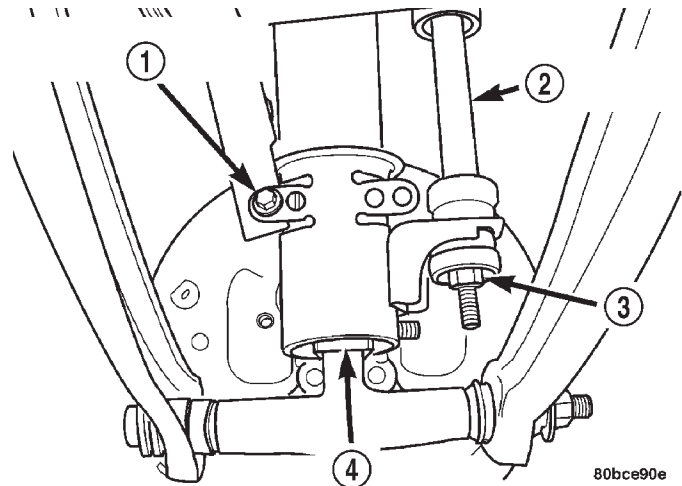

Fig. 5 Rear of Strut Assembly
(1) Raise the vehicle. Refer to **HOISTING** in the **LUBRICATION AND MAINTENANCE** group for the proper lifting procedure.
(2) Remove the rear wheel and tire assembly from the vehicle.
(3) If the vehicle is equipped with rear drum brakes, remove the screw securing the brake hose bracket to the rear of the strut assembly (Fig. 5).
(5) Remove the nut from the end of the rear stabilizer bar link bolt (Fig. 5). Pull the bolt out through the top of the link and remove the link.
(9) If the vehicle is equipped with rear drum brakes, install the screw securing the brake hose bracket to the rear of the strut assembly (Fig. 5). Tighten the screw to a torque of 31 N·m (275 in. lbs.).
(10) Install the tire and wheel assembly on vehicle. Tighten the wheel mounting stud nuts in proper sequence until all nuts are torqued to half specification. Repeat the tightening sequence, this time, to full specified torque of 135 N·m (100 ft. lbs.).
(11) Lower the vehicle to ground level.
(12) Tighten the stabilizer bar link nut to a torque of 23 N·m (200 in. lbs.).
(13) Set the rear toe on the vehicle to the required specification if necessary. Refer to WHEEL ALIGNMENT in this service manual group.